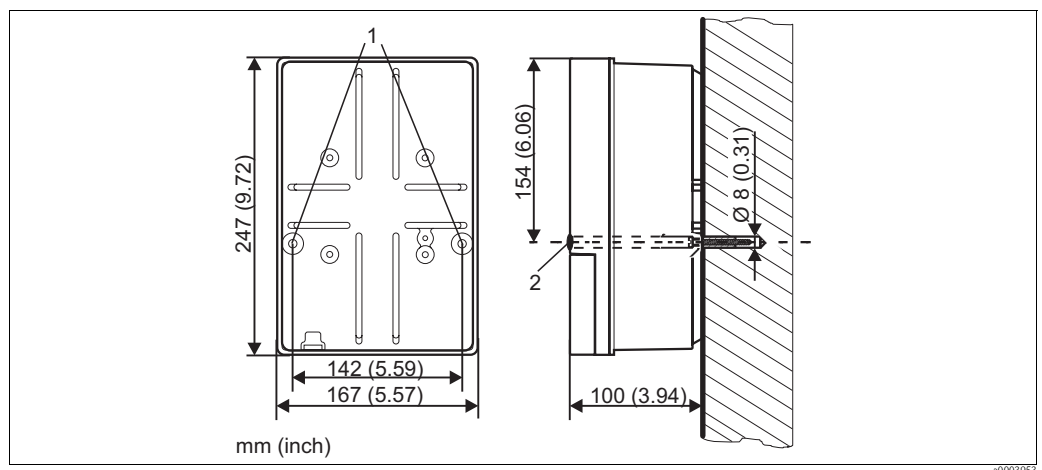

Fig. 10: Dimensions for wall mounting, securing screw:  $\text{Ø } 6 \text{ mm}$  (0.24"), wall plug:  $\text{Ø } 8 \text{ mm}$  (0.31")
1. Bore the holes as per Fig. 10.
2. Push the two securing screws from the front through the securing bores (item 1).
4. Cover the bores with the plastic caps (item 2).